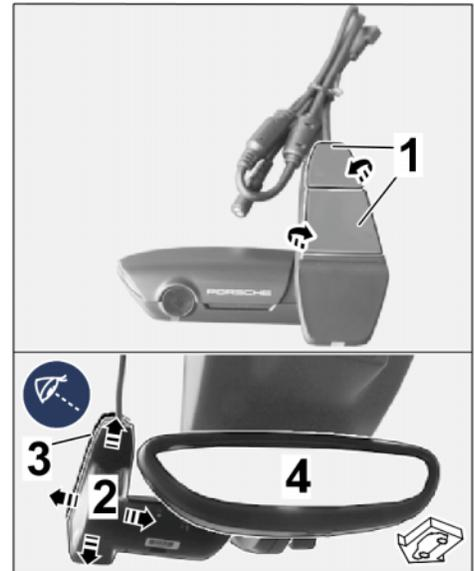

Figure 10
2.2.4 Pull protective film off the front camera retainer plate (⇒ *Figure 10-top-*).
Align front camera with retainer plate symmetrically with respect to the 3M privacy film on the windshield (⇒ *Figure 10-bottom-*).